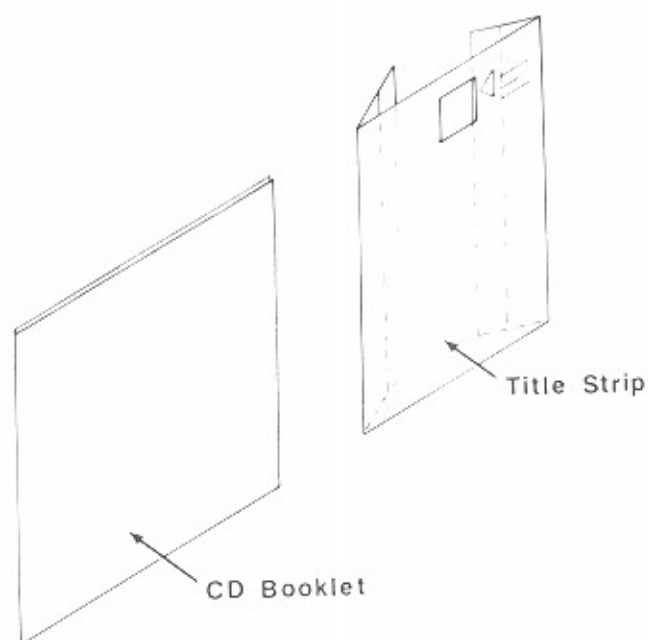

Figure 3-4. Folding The Title Strip
3. Fold the title strip along the inner most perforated line on both sides of the title strip (see figure 3-4).